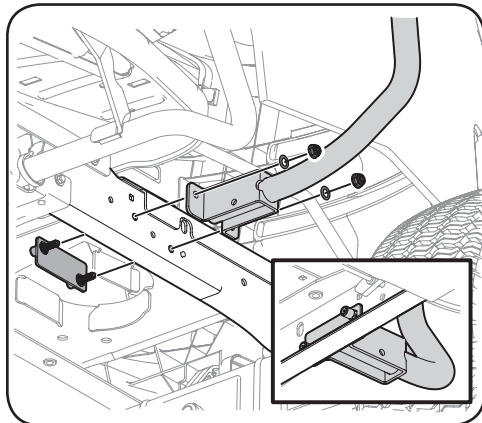

Figure 3-2
1. Using two of the flange lock nuts (Ref. part #11), two of the washers (Ref. part #15) and one of the front canopy mount plates (#8), mount the front left support (#6B) to the frame of the tractor as shown in Figure 3-2.